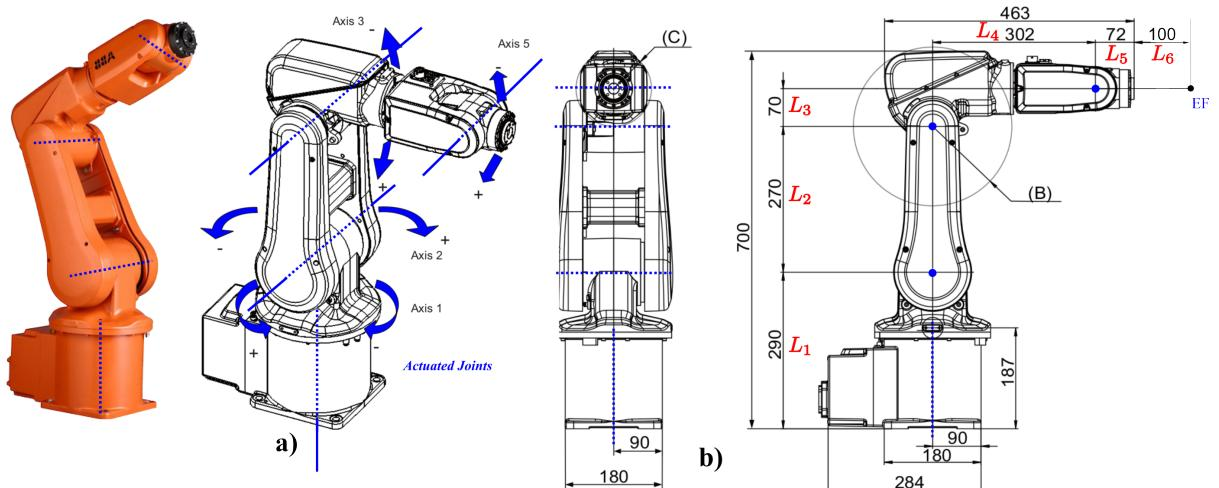

Figure 1: Robot ABB IRB 120: The robot only uses the joints 1, 2, 3, and 5.
The system used in this assignment will be the ABB robot IRB120 (see Fig.1). The ABB IRB120 is a robot with six revolute joints. However, only four of the joints will be used in this assignment. The four actuated joints **Axis 1**, **Axis 2**, **Axis 3**, and **Axis 5** are shown in Fig.1 a), and the physical parameters for the system are shown in Fig. 1 b).
First, compute your relative and absolute Homogeneous Transformation (HT) matrices to obtain the pose of each link and the end-effector (ef). It is recommended that you create general functions, using, for example, Matlab's Symbolic Toolbox to automate this process. Finalize the functions `Model/abbIRB4_params` and `Model/getAbsoluteHT_abbIRB4`. The first function generates an array with the kinematic parameters of the robot. Some of the parameters are already defined in Fig. 1, e.g., L_1, L_2, \dots, L_6 . You need to calculate the additional parameters in the parameter function. The second function receives a joint position vector, an array with the kinematic parameters, and the HT of the robot base ($link_0$) with respect to (wrt) the world coordinated frame (wcf). The output of this function is two cell arrays, one with the HTs of each link wrt the robot base ($link_0$), and the other with the HTs of each link with respect to the wcf (w). When in doubt about frame placement due to multiple solutions, choose the solution with the *x-axis* pointing towards the front of the robot or upwards. Also, x_e for the end-effector is pointing in to the screen for the last illustration from Fig. 1. Finally, recall that the *z-axis* should always be in the actuator's positive direction.